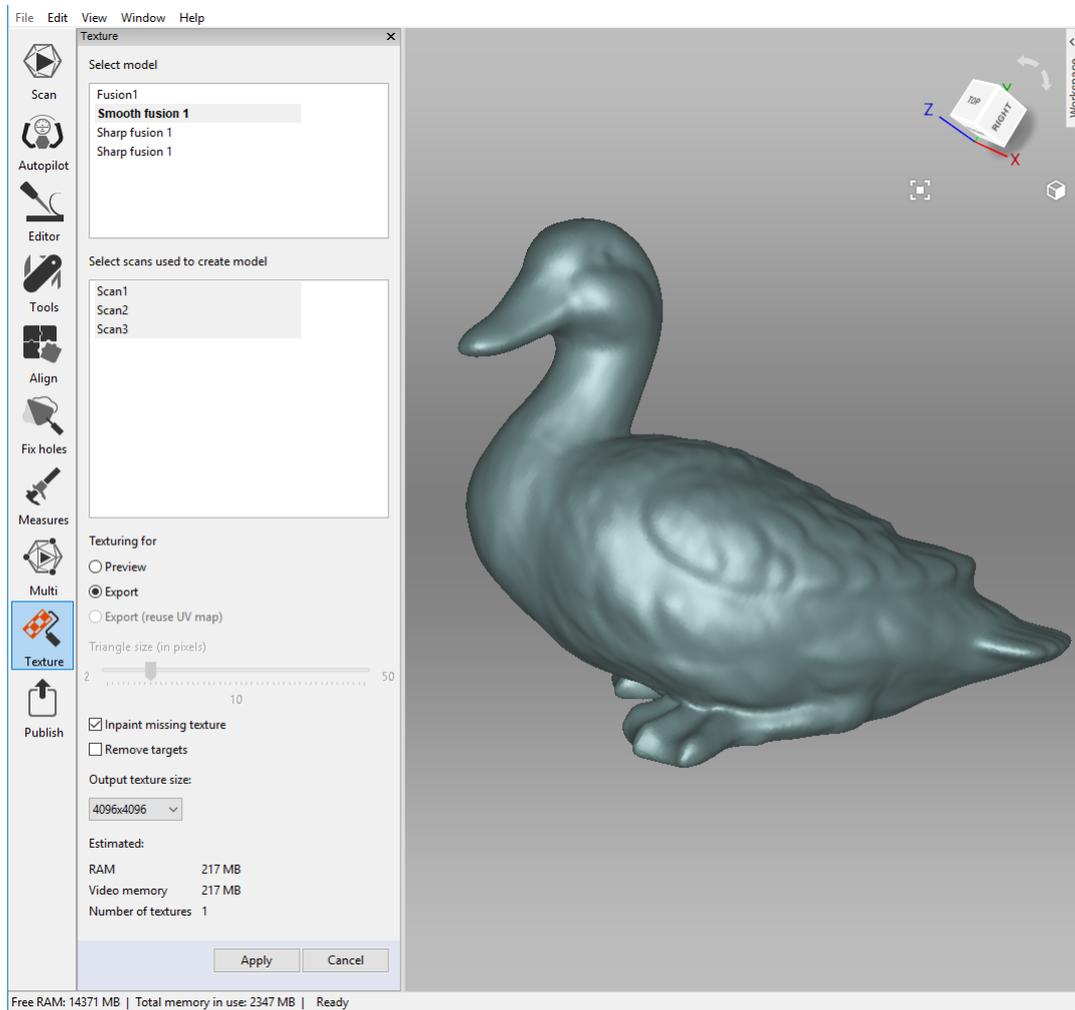

Figure 93: Choosing a texture-application method and adjusting its parameters.
2. Choose a model from the first list (see Figure 93); Artec Studio will apply the textures to this model